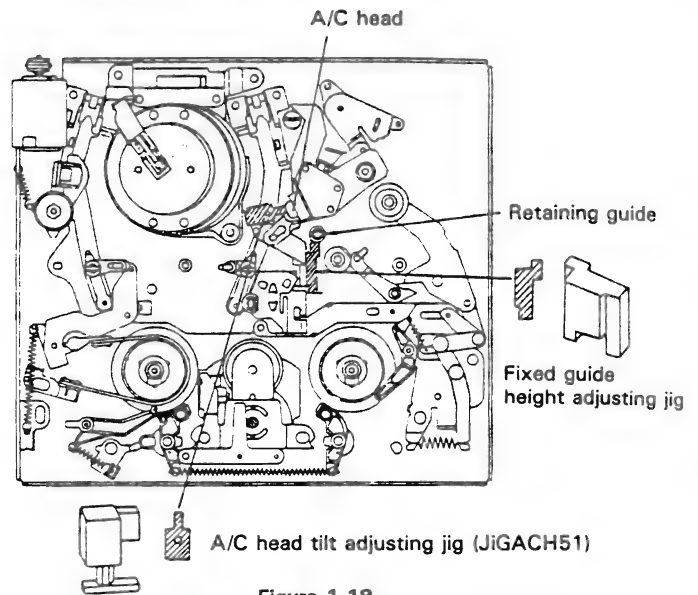

Figure 1-18.
9. Set the mechanism to the unloading mode. Place the A/C head tilt adjusting jig on the main chassis as shown in Figs. 1-18 and 1-19. Slowly turn the set screw with a hex wrench (1.5 mm JiGHW0015) until there is no gap between the jig and the A/C head.